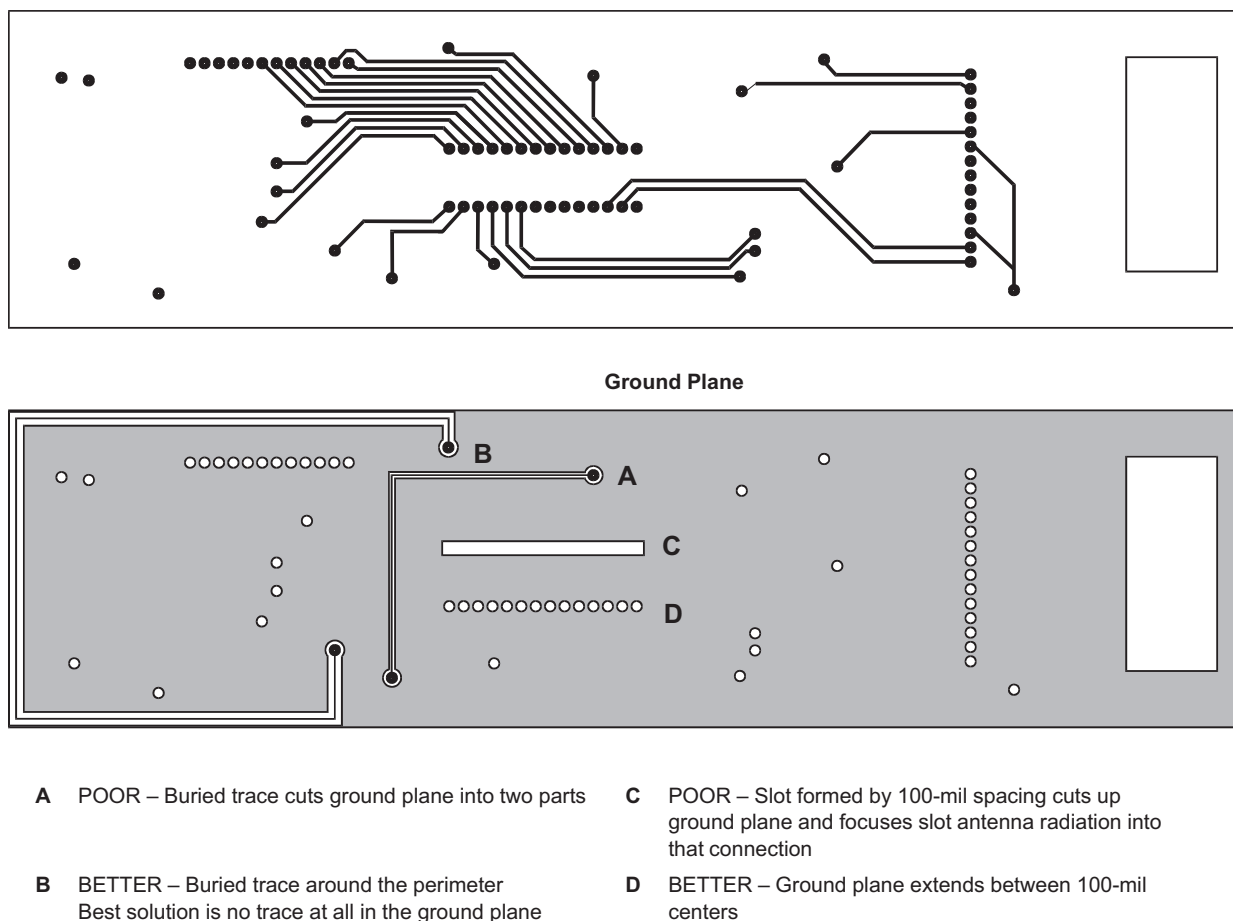

Figure 37. Four-Layer Board Layout Considerations
- Pay utmost attention to how the holes and cutouts in the planes are done. They break up the plane and, therefore, cause increased loop areas (see A and B in Figure 37).
- When making through holes for 100-mil-center-spacing leads in the plane, place a small trace between each pin. Breaking up the plane with a row of holes is much better than having a long slot (see C and D in Figure 37).